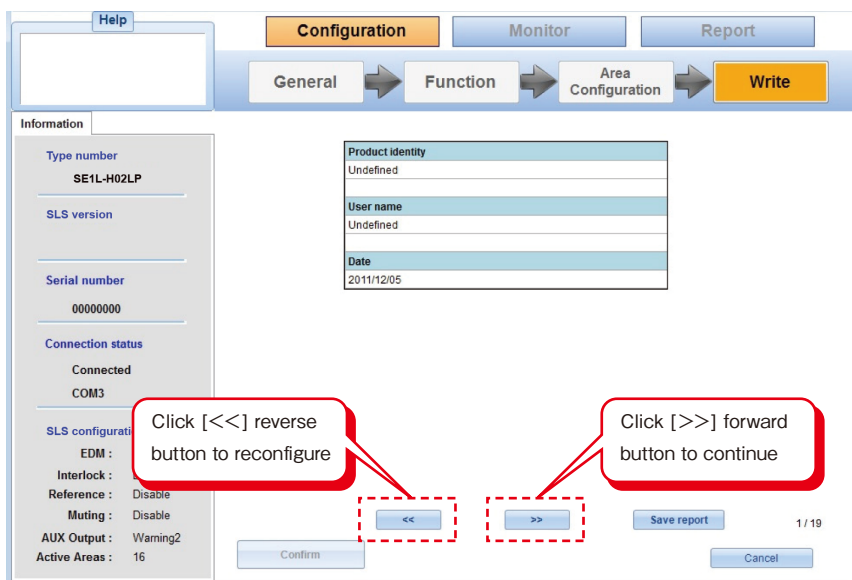

Figure 7-51. Configuration setting confirmation window
- d) A window (Figure 7-51) displaying the SE1L and user identification is displayed.